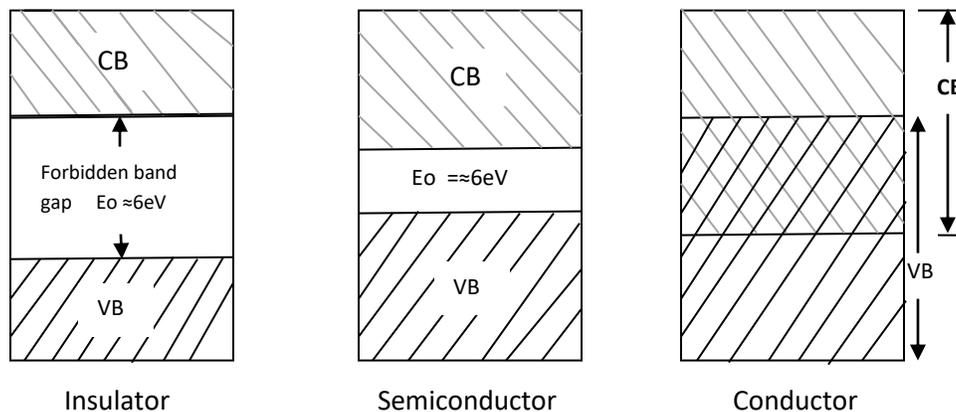

FIG:1.1 Energy band diagrams insulator, semiconductor and conductor
**Insulator:** An insulator is a material that offers a very low level (or negligible) of conductivity when voltage is applied. Eg: Paper, Mica, glass, quartz. Typical resistivity level of an insulator is of the order of  $10^{10}$  to  $10^{12}$   $\Omega$ -cm. The energy band structure of an insulator is shown in the fig.1.1. Band structure of a material defines the band of energy levels that an electron can occupy. Valance band is the range of electron energy where the electron remain bended too the atom and do not contribute to the electric current. Conduction bend is the range of electron energies higher than valance band where electrons are free to accelerate under the influence of external voltage source resulting in the flow of charge.
For an insulator, as shown in the fig.1.1 there is a large forbidden band gap of greater than 5eV. Because of this large gap there a very few electrons in the CB and hence the conductivity of insulator is poor. Even an increase in temperature or applied electric field is insufficient to transfer electrons from VB to CB.
**Conductors:** A conductor is a material which supports a generous flow of charge when a voltage is applied across its terminals. i.e. it has very high conductivity. Eg: Copper, Aluminum, Silver, Gold. The resistivity of a conductor is in the order of  $10^{-4}$  and  $10^{-6}$   $\Omega$ -cm. The Valance and conduction bands overlap (fig1.1) and there is no energy gap for the electrons to move from valance band to conduction band. This implies that there are free electrons in CB even at absolute zero temperature (0K). Therefore at room temperature when electric field is applied large current flows through the conductor.